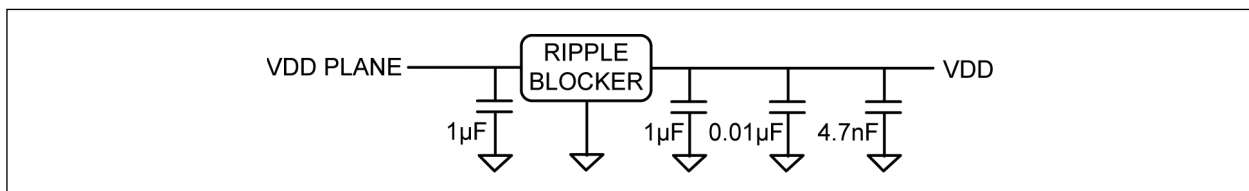

FIGURE 5-2: Filter Circuit with Ripple Blocker.
- To improve power supply filtering beyond what a ferrite bead can provide, the Ripple Blocker™ provides a solution. MIC94300 or MIC94310 are recommended parts. The filter circuit with Ripple Blocker is shown in Figure 5-2 and can be used for any of the above V_{DD} sections.